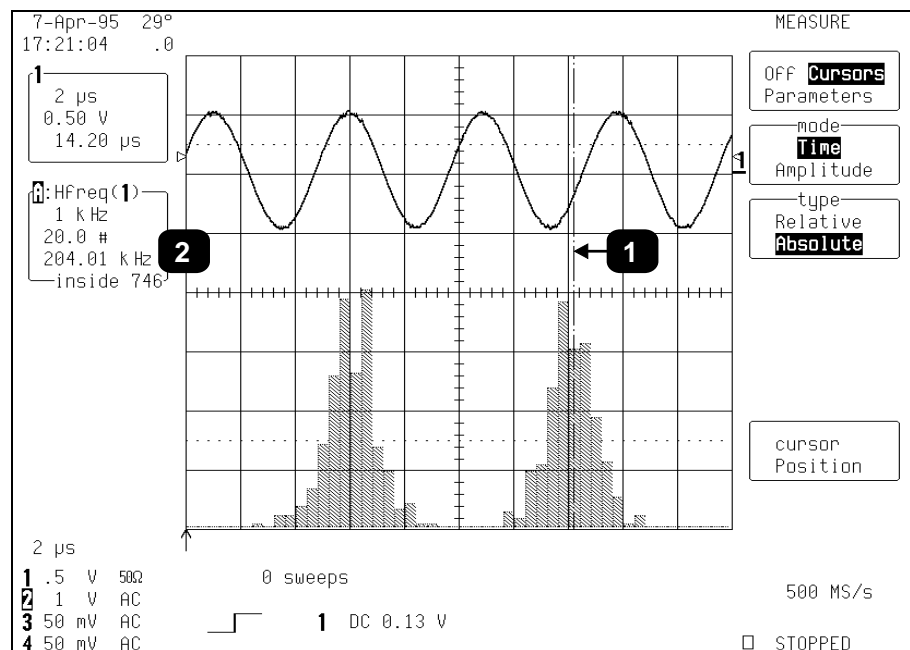

Figure 1.4
After a brief visual analysis, the measurement cursors and statistical parameters can be used to determine additional characteristics of distribution, including the most common frequency in each distribution and the spread of each distribution. *Figure 1.4*, below, shows the use of the measurement cursor (Annotation ①), to determine the frequency represented by one bin of the distribution. The value of the bin, inside the Displayed Trace Field (see Chapter 2 for a detailed description) is indicated by Annotation ②.